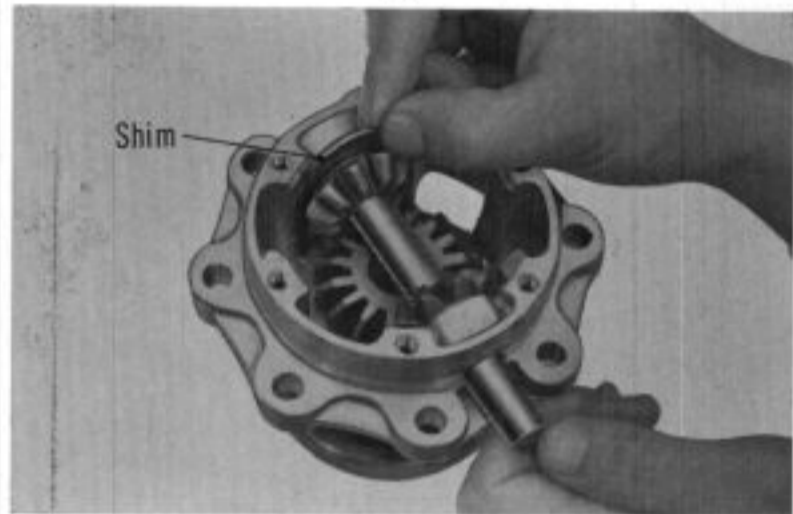

Fig. 8C-4
3. Checking the clearance between the differential pinion shaft and the differential pinion. Measure the shaft diameter and the pinion inside diameter with micrometer and then compute the radial clearance. (Fig. 8C-5)